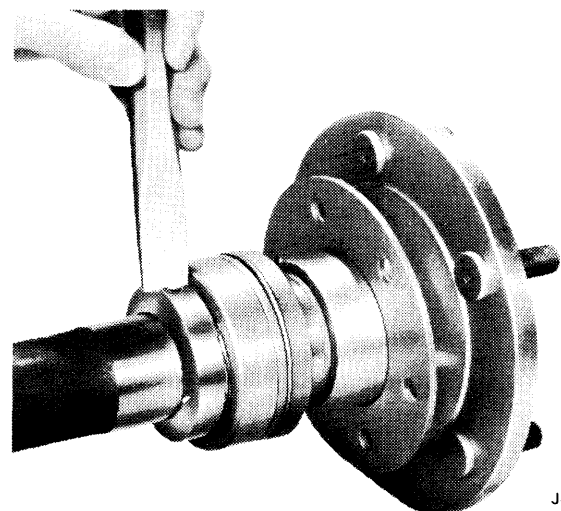

Fig. 10-24 Notching Bearing Retainer Ring
(1) Mount axle shaft in vise.
(2) Drill 1/4 inch diameter hole in retainer ring. Hole depth should be approximately 3/4 of ring thickness. Do not allow drill to contact axle shaft.
(3) Position chisel over drilled hole in retainer bearing. Cut deep groove in retaining ring using chisel. This will enlarge ring, or split it, allowing ring to be removed from axle shaft (fig. 10-24).
(4) Cut through oil seal using hacksaw and remove seal and retainer plate. Do not damage seal contact surface.
(5) Inspect axle shaft oil seal journal for scratches. Remove scratches using crocus cloth.
(6) Install retainer plate on axle shaft.
(7) Pack wheel bearing grease in oil seal cavity and between seal lips and install seal on axle shaft seal seat. Outer face of seal must face axle flange.